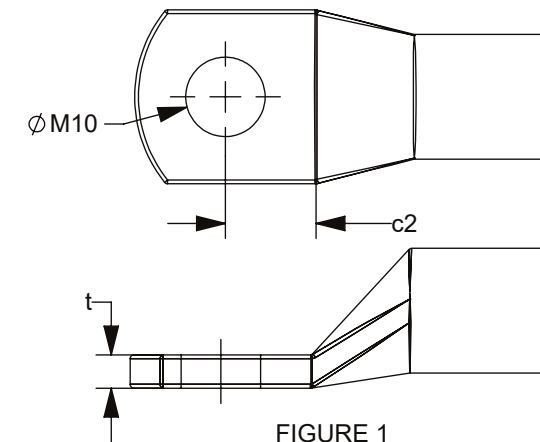

FIGURE 1
3. ASSEMBLE THE ISOLATED BOLT, M10 RING TERMINAL, & M10 ZCASE TO THE BASE ASSEMBLY. SECURE THE BOLT TO $16 \pm 2 \text{ N}\cdot\text{m}$. BE SURE THE RING TERMINAL DIMENSIONS MATCH THE FOLLOWING REQUIREMENTS (FIGURE 1): $c2 \geq 11 \text{ mm}$ IF MORE THAN ONE RING TERMINAL SIZE IS USED, THE THICKNESS (t) OF EACH MUST BE WITHIN 2mm OF EACH OTHER